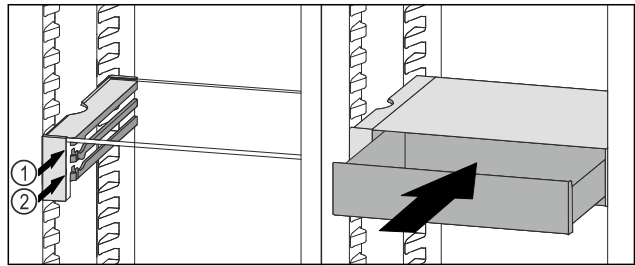

Fig. 43
- ▶ Place the VarioSafe drawer behind the stoppers on desired rib *Fig. 43 (1)* or *Fig. 43 (2)*.